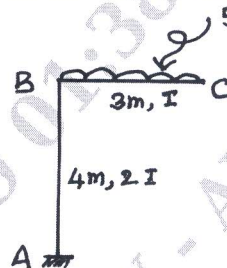

Fig.Q.5(b)
- b. Using castigliano's approach find the vertical and horizontal deflection at 'C' of a bent loaded as shown in Fig.Q.5(b). Take $EI = 15000 \text{ kN/m}^2$. (12 Marks)